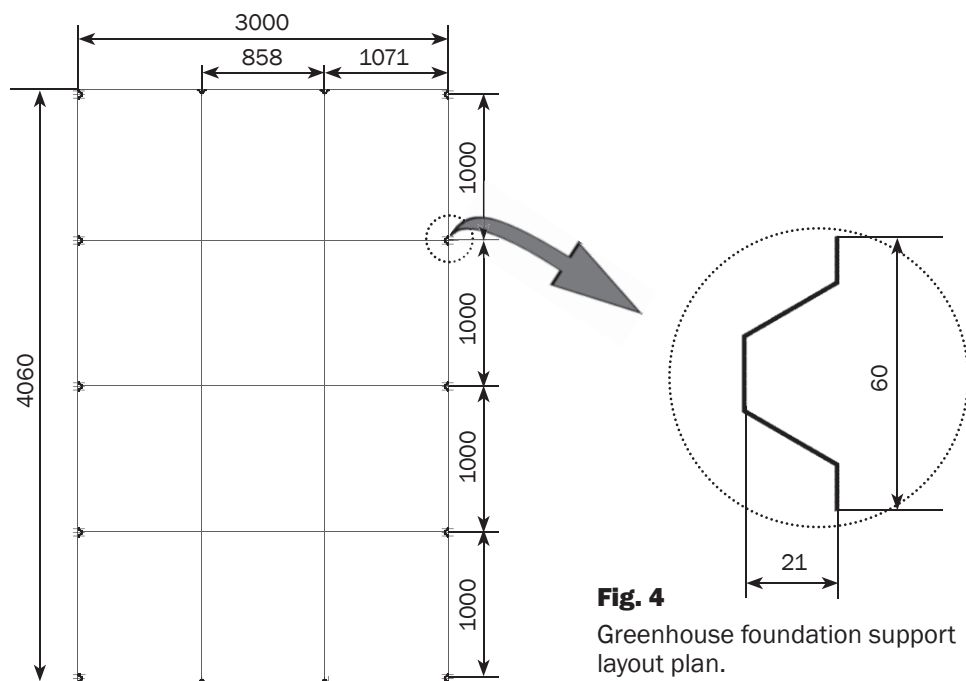

Fig. 4
3. Dig pits on the site selected for greenhouse installation at a depth of shovel blade according to **Fig. 4**. Install frame into the pits. Check equality of frame diagonals using a cord. Total draft of greenhouse into the ground should be so that bottom elements 6 of door opening touch the ground. Check equality of the diagonals using a cord again and correct position of the frame angles.